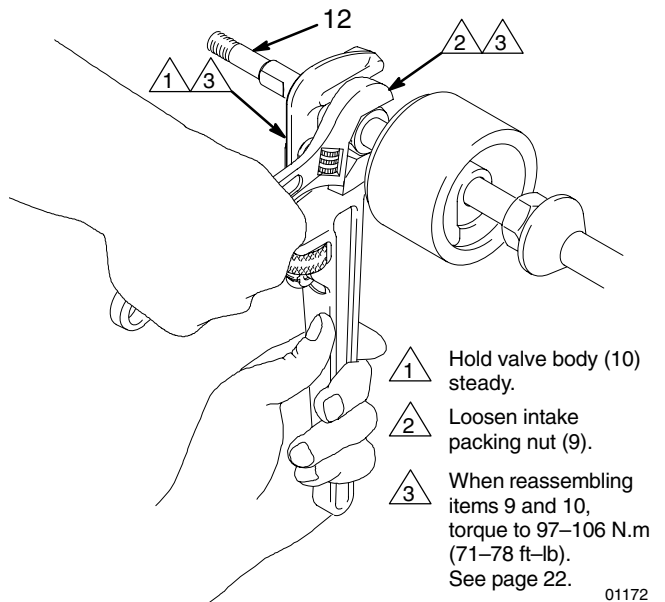

Fig. 8
9. Hold the valve body (10) steady with a wrench on the flats. Using an adjustable wrench, loosen the intake packing nut (9) to decrease tension on the priming piston rod (12). Now slide the intake valve assembly off the rod and set it aside. See Fig. 8.
9. Slide the assembled intake valve onto the priming piston rod (12), making certain that the packing nut (9) goes on the rod first. Push the valve assembly up the rod, stopping before it reaches the rod guide (18).
10. Hold the valve body (10) steady with a wrench while using an adjustable wrench to tighten the packing nut (9). See Fig. 8. Torque to 97–106 N.m (71–78 ft-lb). Use a hammer and brass rod to carefully drive the valve assembly further up the rod until it reaches the stop (VS).
11. Remove the displacement rod (1) from the vise. Place the cylinder (4) sideways in the vise with soft jaws.